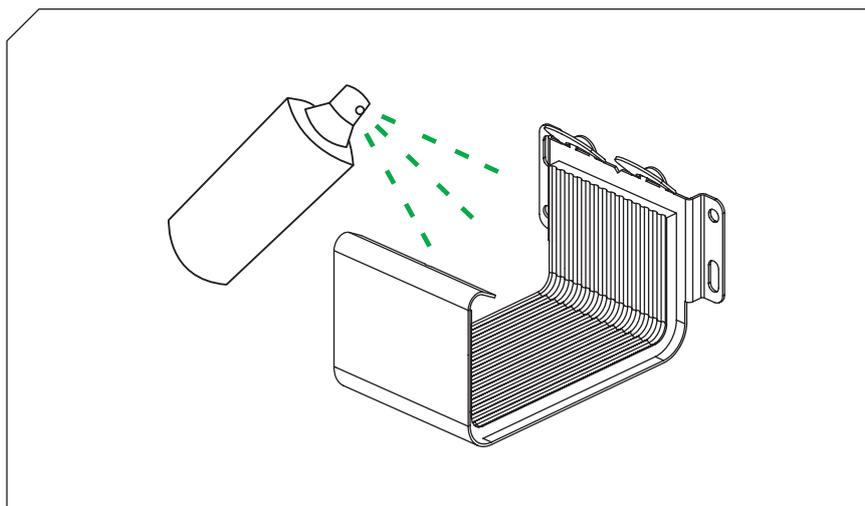

Figure 12
- 4.4 Before mounting the gutters in the connector, spray the gasket with a lubricant! (**Figure 12**)